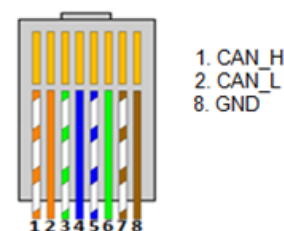

Figure 2 - RJ45 connector
1. For Lithium battery using a CAN communication, connect the RJ45 connector wired as presented on figure 2 (stranded cable, minimum category 6A is recommended) on IMEON's CAN port.